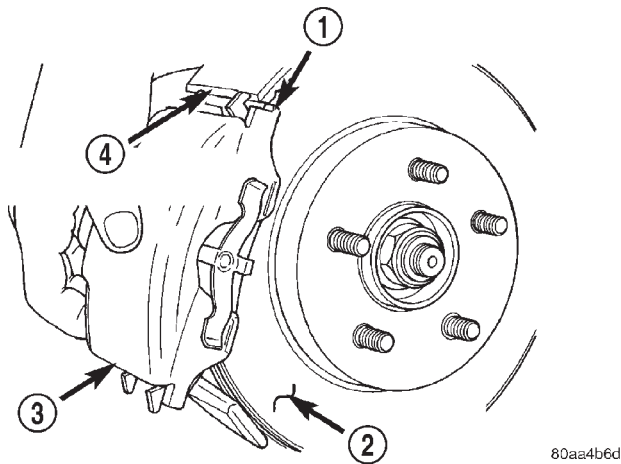

Fig. 13 Brake Caliper Installation
(9) Install the disc brake caliper (with pads) on the brake rotor and steering knuckle. The left side caliper is installed by first sliding the top of the caliper past the top abutment on the steering knuckle to hook the top edge of the caliper, then pushing the lower end of the caliper into place against the knuckle (Fig. 13). The right side caliper is installed by first sliding the bottom edge of the caliper past the lower abutment on the steering knuckle to hook the lower edge of the caliper, then pushing the top of the caliper into place against the steering knuckle.